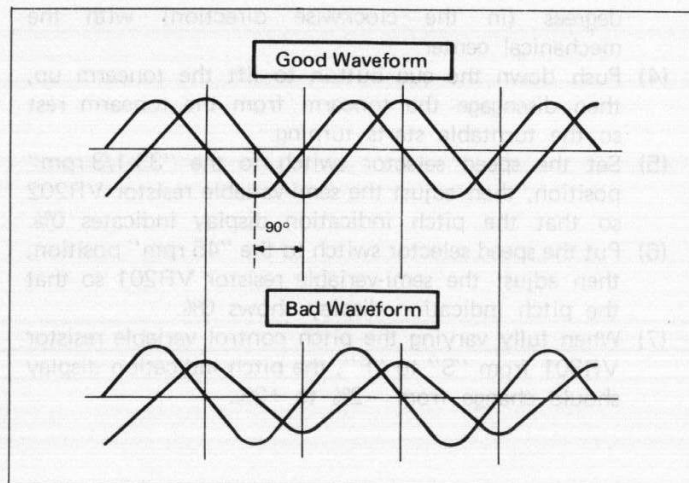

Figure 31-4
- (1) Connect one channel of a dual-beam synchroscope to No. 10 (TM2) (ground) and No. 8 (TM2) of the motor control circuit, and the other to No. 10 (ground) and No. 3 (TM1) of the motor control circuit.
- (2) Adjust (Change a resistance values of) the semi-variable resistors VR2 and VR3 so that two waveforms concerned become symmetrical as shown in Fig. 31-4.
- (3) Next, adjust (change a resistance value of) the semi-variable resistor VR1 so that both the waveforms concerned have the same peak value.